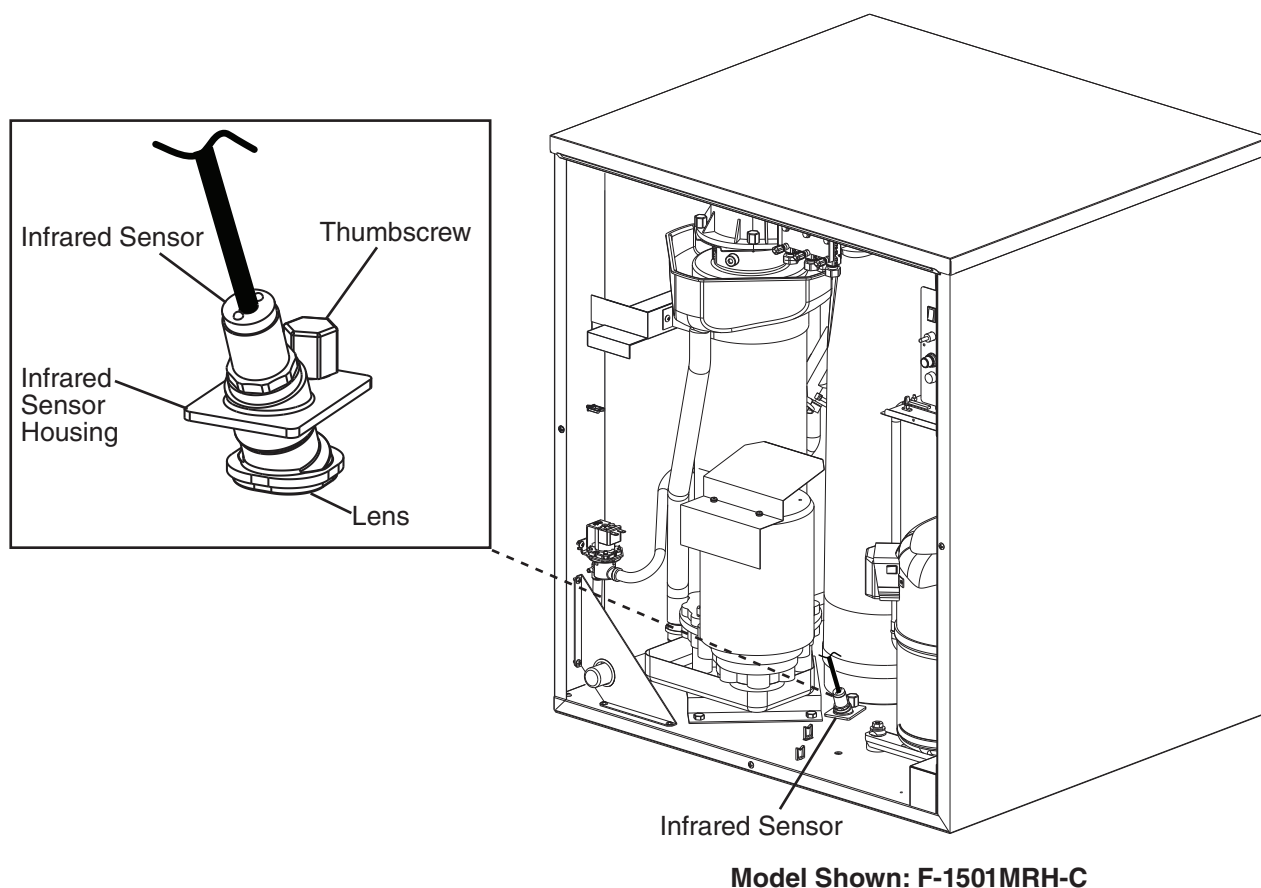

Fig. 19
- 8) "GM" LED and "COMP" LED are on. Use an object to cover the infrared sensor lens at the bottom of the icemaker. If the bottom of the icemaker is not accessible in your application, remove the thumbscrew securing the infrared sensor housing, remove the housing from the base, then cover the infrared sensor lens. See Fig. 19. The yellow LED on the infrared sensor turns on. The yellow LED flashes when ice is at the outer limit of its range and turns steady as ice nears. After the yellow LED turns on (flashing or steady), the infrared sensor shutdown delay timer starts (S1 dip switch 1, 2, 3; factory default is 100 sec.). "COMP" LED turns off after the shutdown delay timer terminates. 5 minutes later, "GM" LED turns off.